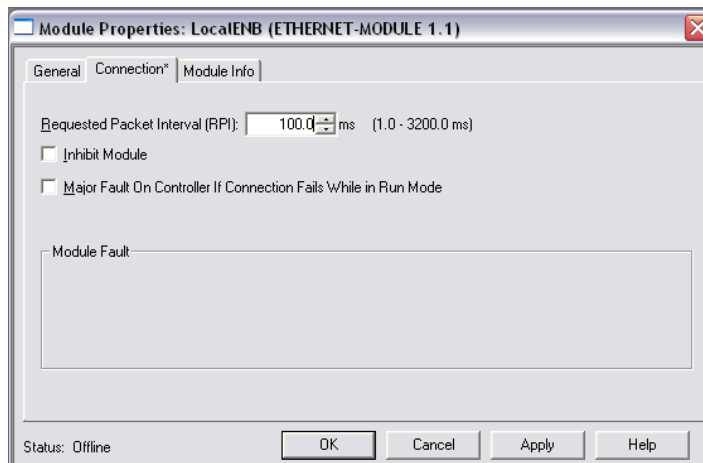

Figure 6 Defining the EtherNet IP Module
- Request Packet Interval (RPI) set to 100ms. See Figure 6.